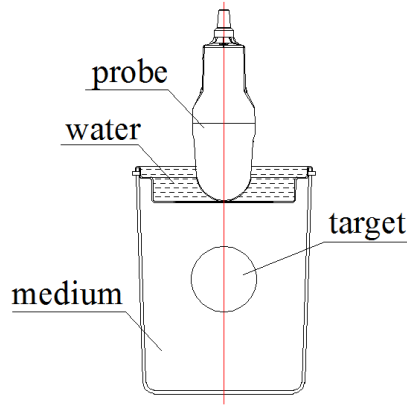

Figure B-1 The place of probe
B. 1 Fix the probe on a holder and make sure that the probe is placed vertically on the center of acoustic window of phantom (standard phantom 160 ml) See Figure B-1